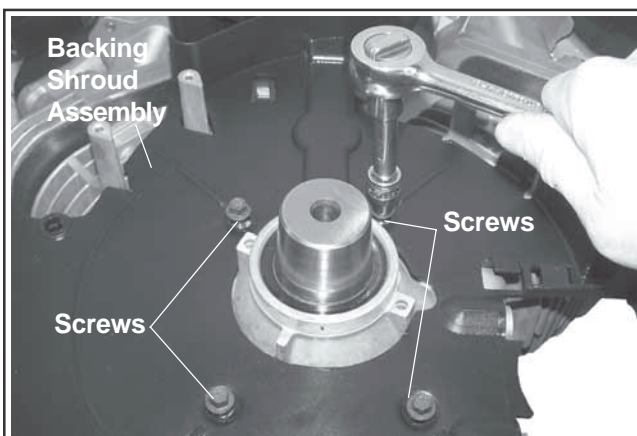

Figure 8-35. Removing Backing Shroud Mounting Screws.
1. Remove the four mounting screws securing the backing shroud assembly to the crankcase. See Figure 8-35.